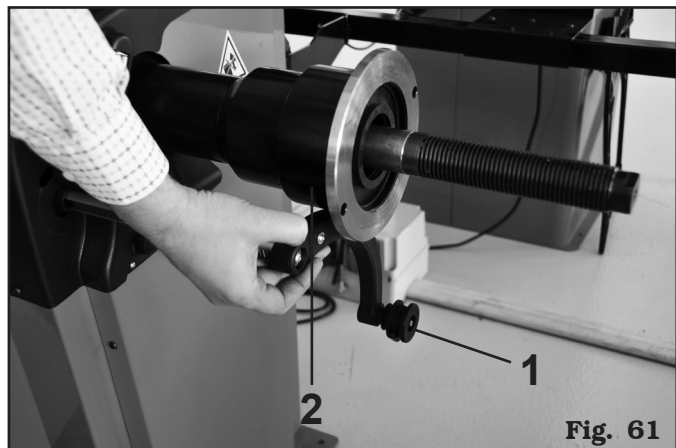

Fig. 61
Rest the gauge (**Fig. 61 ref. 1**) down below on the largest cylindrical part of the bell (**Fig. 61 ref. 2**). Display screen D2 will show a value in bit.